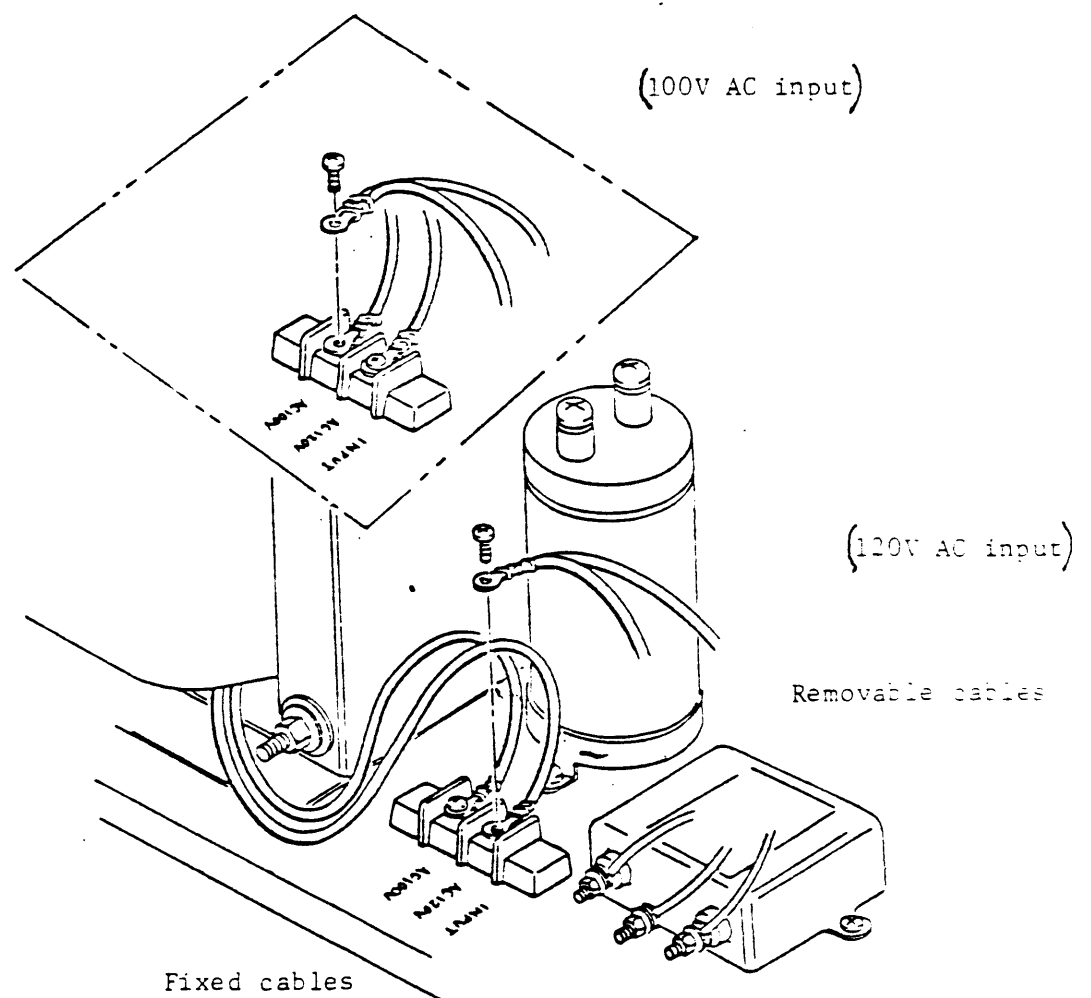

FIGURE 6.6 Input Voltage Select
- (2) Adjust the tap according to the input conditions (FIGURE 6.6).